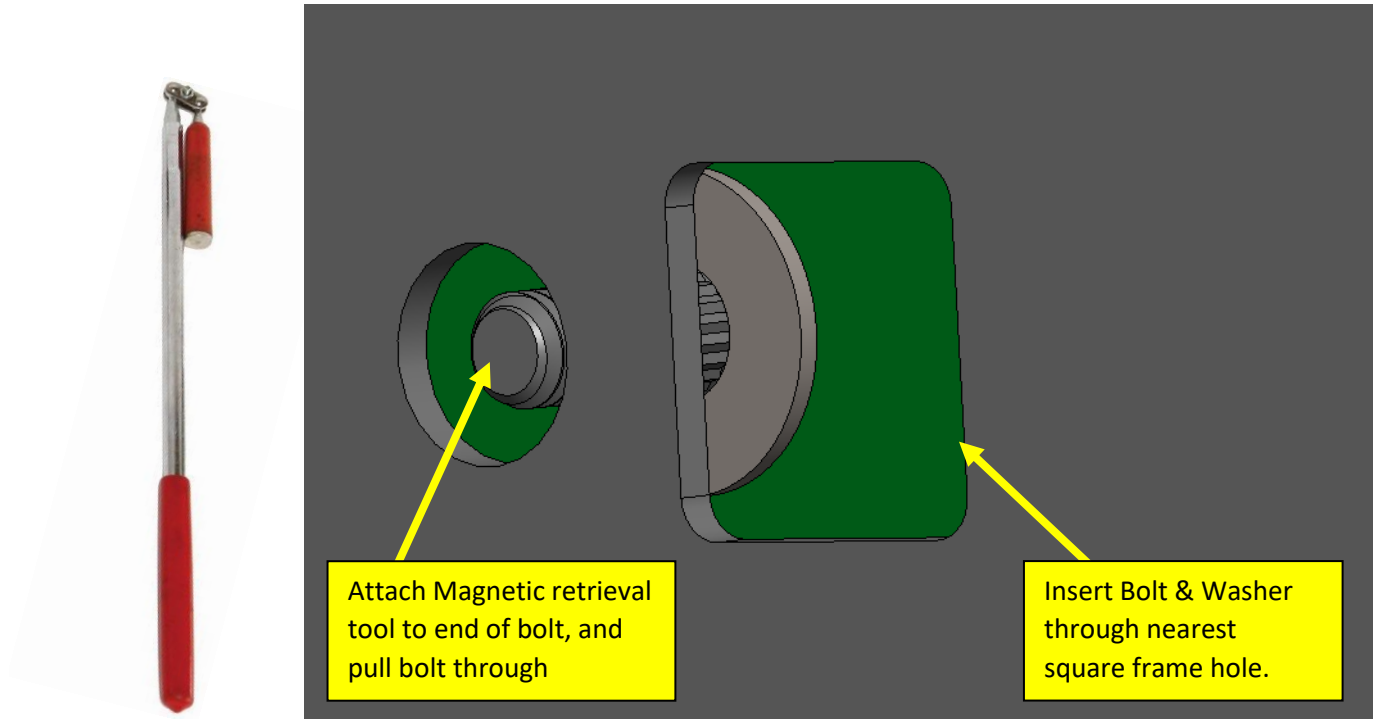

Figure 13 - Knurled Bolt Installation (Common throughout)
10.2.2. Use small magnetic tool to secure end of bolt and bring through specified holes shown in Figure 13.